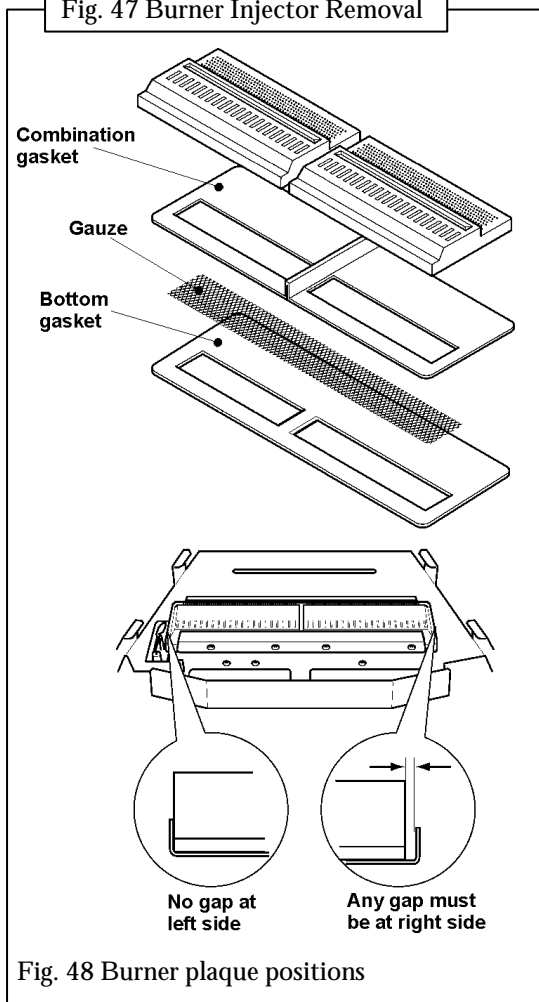

Fig. 48 Burner plaque positions
14.13 TO REPLACE BURNER PLAQUES (Fig. 48)